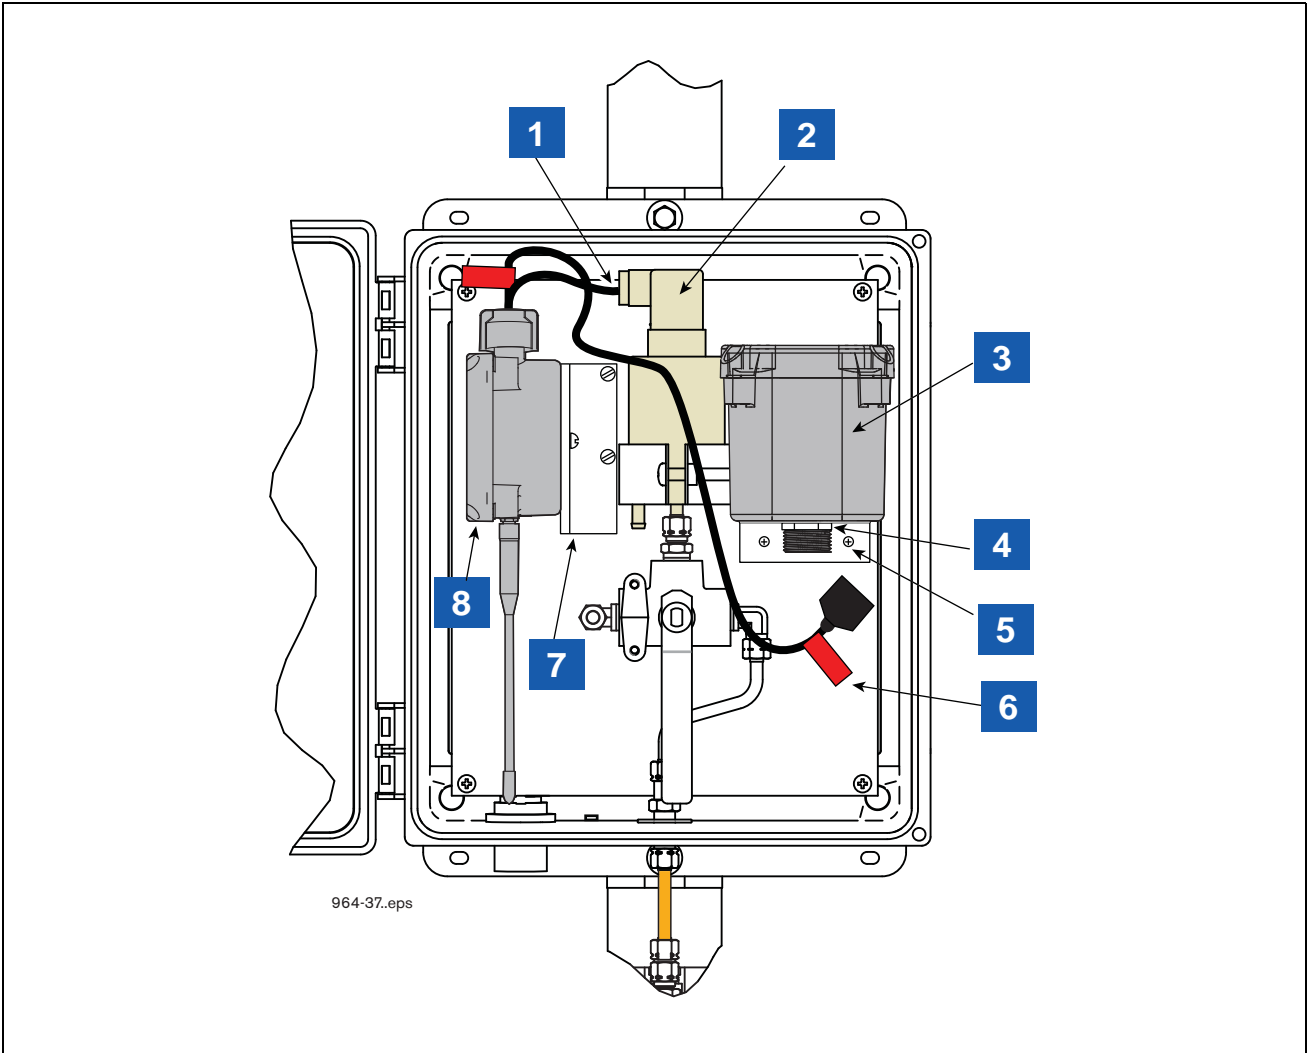

Figure 16. Example VRPS Transmitter/battery Pack Installation In The Universal Enclosure
5. Get the thin hex nut from the kit and screw it onto the battery housing cable connector threaded fitting until snug (see item 4 in Figure 16).
6. Attach the battery housing/bracket assembly to the back mounting surface of the Universal Enclosure using two #10 taptite screws from the kit (see item 5 in Figure 16).
LEGEND FOR NUMBERED BOXES IN Figure 16